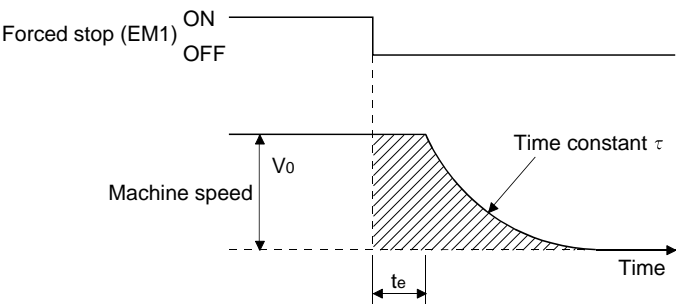

Fig. 10.3 Dynamic brake operation diagram
(1) Calculation of coasting distance
Fig. 10.3 shows the pattern in which the servo motor comes to a stop when the dynamic brake is operated. Use Equation 10.2 to calculate an approximate coasting distance to a stop. The dynamic brake time constant τ varies with the servo motor and machine operation speeds. (Refer to paragraph (2) of this section.)